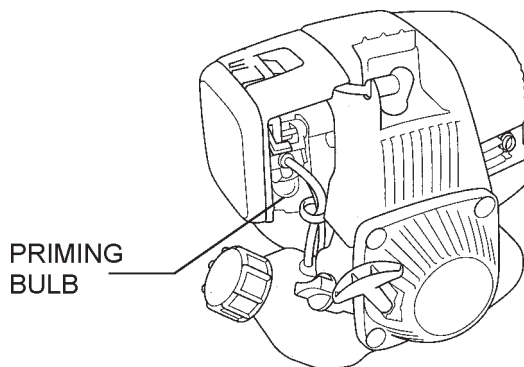

Figure 11. Priming Bulb Location
2. Press the priming bulb (Figure 11) repeatedly until fuel can be seen inside the clear plastic bulb.